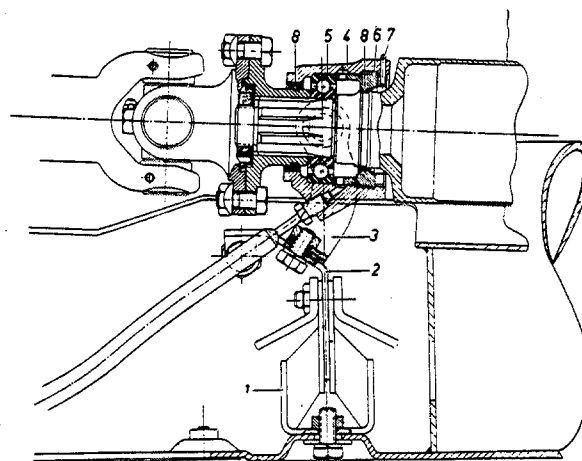

Fig. GW 1/4
Do not forget sealing ring (9) between slotted nut and centering star on transmission and rear axle (see Fig. GW 1/01).
4. After the propeller shaft has been installed, first screw intermediate bearing to frame floor. Loosen fastening screws for support and bracket of intermediate bearing and turn side stop screws back (Fig. GW 1/4).